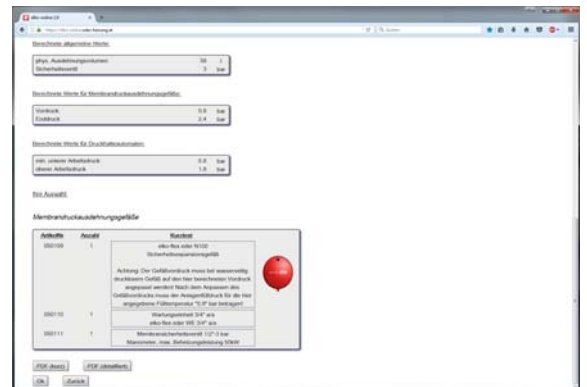

figure 3
3. After selecting the required variant and the suitable accessory click the "finish" button. This opens the result page, where your selected products are summarized. Furthermore it shows the necessary gas pressure for the current system and the appropriate filling pressure of the cold system (figure 3).